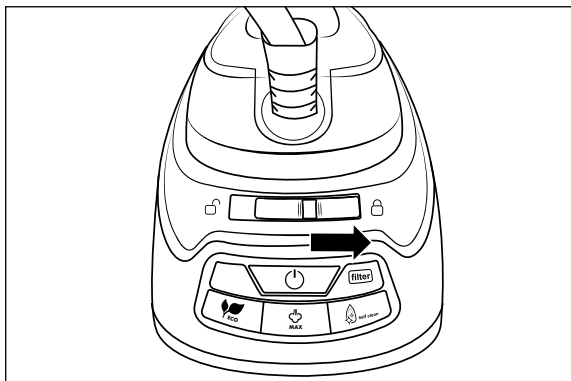

Fig. 8
- 4) Lock the steam iron **1** by sliding the locking switch **15** to the right towards  (locked) (see Fig. 8).